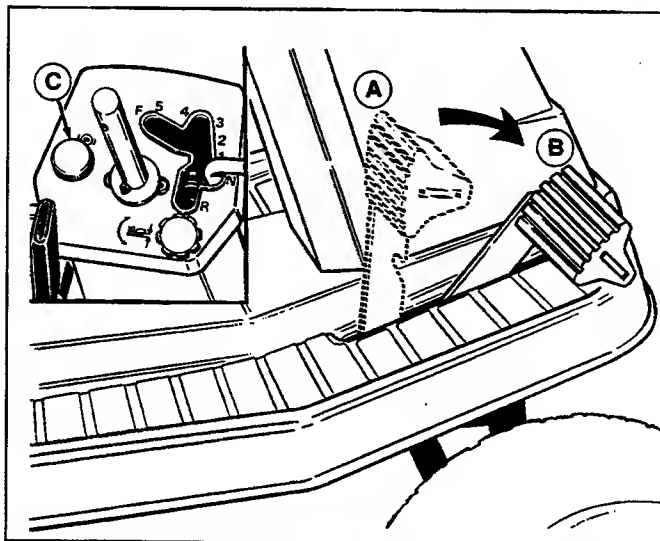
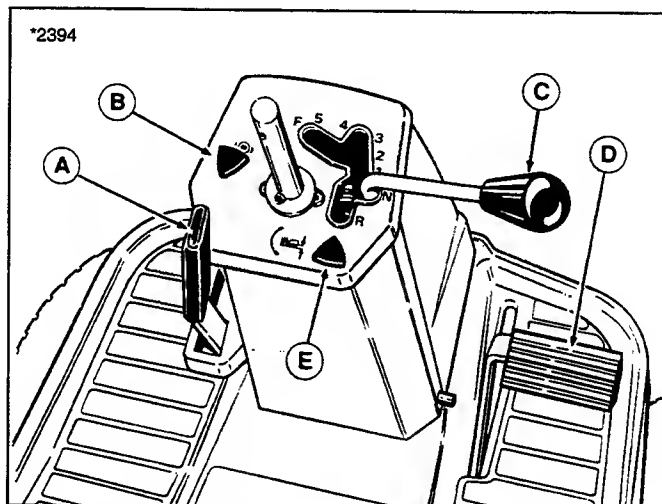

Figure 10. Clutch/Brake Pedal
Figure 11. Controls
- When traveling to or from the work site, fully raise the mower using the mower lift lever (A, figure 11). At the work site, lower mower using the lift lever.
- Use the Dial-A-Cut™ control (E, figure 11) to adjust the height of the mower. Pull back slightly on mower lift lever (A, figure 10) to relieve pressure and turn clockwise to raise mower cutting height, or counter-clockwise to lower cutting height.
1. See figure 10. Depressing the pedal from position A to B disengages the transmission drive and also returns the transmission control lever to neutral (from forward speeds). Fully depressing the pedal to position B applies the rider brake.
2. Parking brake is applied at pedal position B when parking brake control knob (C, figure 10) is pulled up with pedal fully depressed.
1. See figure 10. Depressing the clutch pedal from position A to B activates neutral start circuit, disengages the transmission drive belt and allows the gear lever to be shifted.
2. Fully depressing the clutch/brake pedal from position A to B applies the rider brake. Parking brake is applied at position B when parking brake control knob (C, figure 10) is pulled up with pedal depressed.
1. Seat yourself on the rider seat in the operating position. Set the parking brake using the clutch/brake pedal (D, figure 11) and parking brake knob (B).
2. Push down on the switch (G, figure 2) to disengage the PTO and place the ground speed control lever (C, figure 11) in neutral.
according to how far the control lever (C, figure 11) is moved in the forward or reverse position.
On gear models, ground speed is selected by depressing the clutch/brake pedal (D, figure 11) and moving the control lever (C, figure 11) to the appropriate gear selection. Most mowing is done in 3rd or 4th gear with engine set at full speed. If the terrain is rough, hilly or sloping, use first or second gear. If the grass is wet or over 3" (76mm) high, use full engine speed (with low gear) so the mower will have enough power to cut the grass.
1. If you are ready to mow, lower the mower from the transport position using lever (A, figure 11) and set the mowing height using the Dial-A-Cut™ Control (E, figure 11).
4. Release the parking brake by depressing the clutch/brake pedal (D, figure 11) and pushing knob (B) down.
5. **On hydro models**, move the ground speed control lever (C, figure 11) to the desired direction and speed of travel to set the rider in motion.
1. **On hydro models**, move the ground speed control lever (C, figure 11) into the NEUTRAL position to make a gradual stop. To make a more rapid stop, depress the clutch/brake pedal (D, figure 11).
On gear models, press the clutch/brake pedal (D, figure 11) down only far enough to disengage the clutch to make a gradual stop. For a more rapid stop, press pedal down farther to apply the brake. Move the ground speed control lever to NEUTRAL before releasing the pedal.
2. Engage the parking brake by fully depressing clutch/brake pedal and pulling up on parking brake knob (B, figure 11).
2. Place the mower in the transport position (up) using the mower lift lever (A, figure 11).
3. Depress the clutch/brake pedal and place the ground speed control lever (C, figure 11) in the neutral gate.